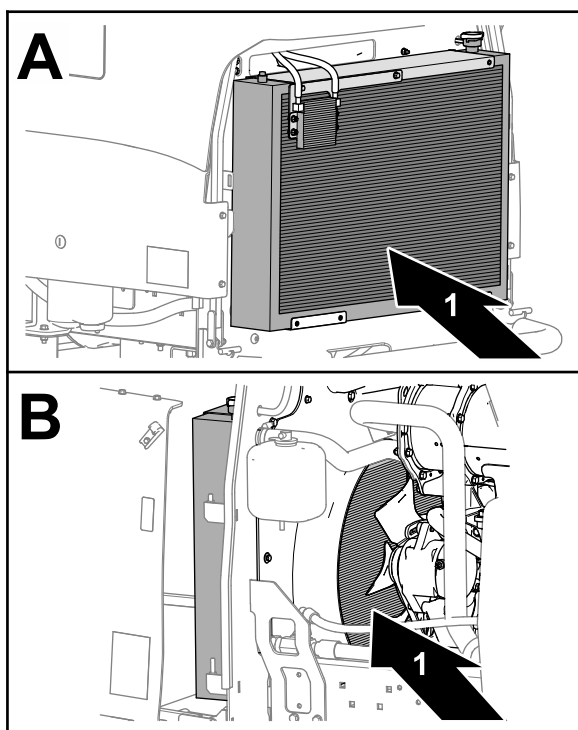

Figure 71
7. Thoroughly clean both sides of the radiator and oil cooler with compressed air (Figure 71).